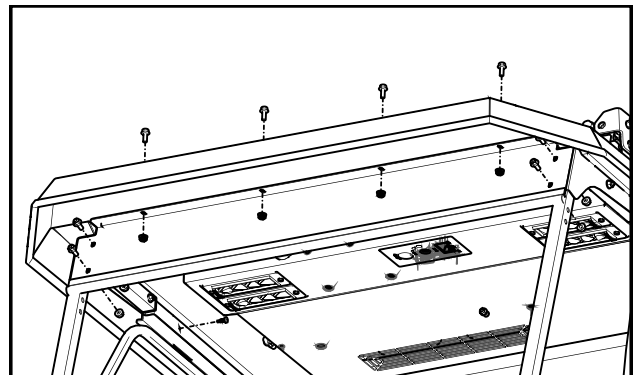

Fig. 4.8 (Windshield Filler Panel)
- 4.8 Install the windshield filler panel as shown in Fig. 4.8.